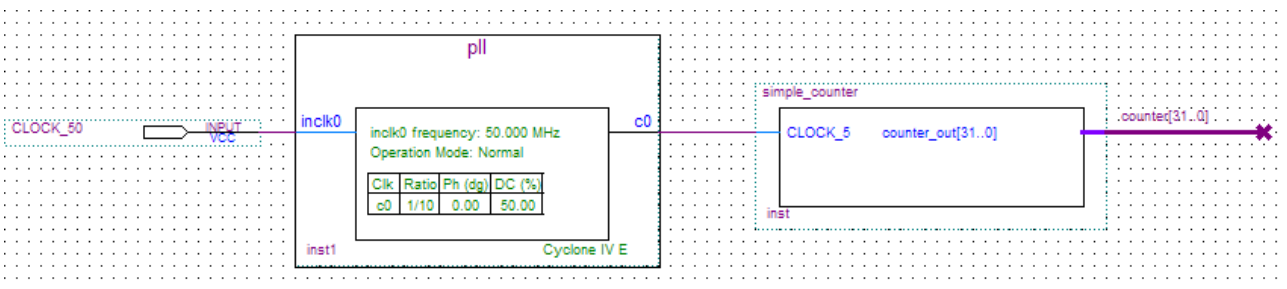

Figure 6-32 Circuit schematic (BDF)
4. Click OK. **Figure 6-32** shows the BDF.